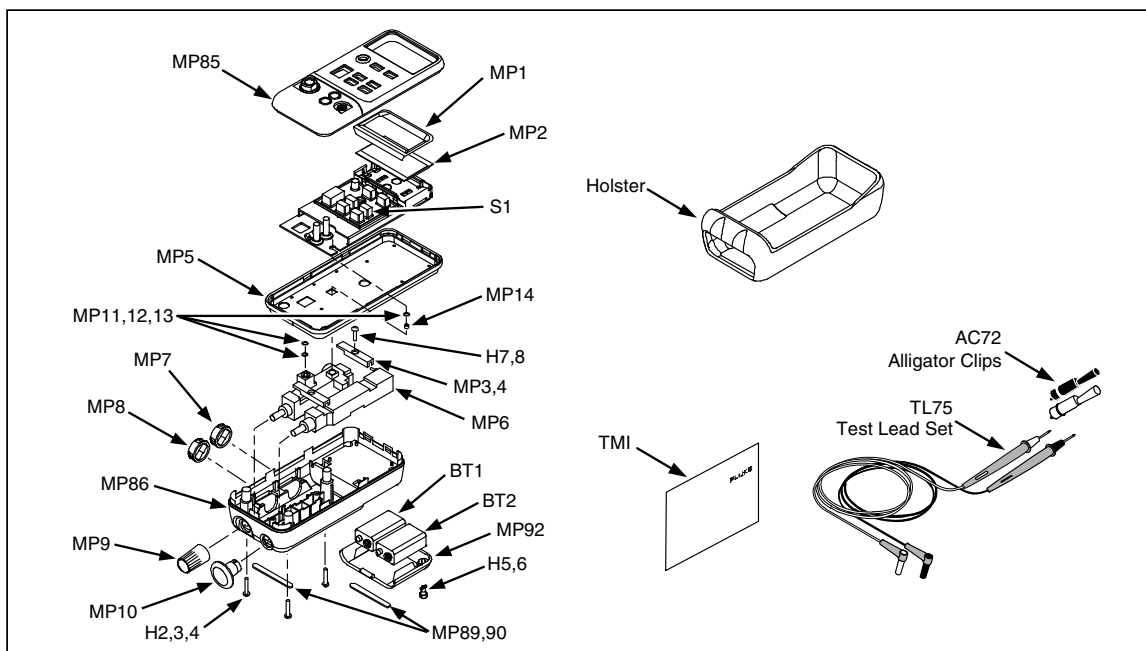

Figure 7. Replacement Parts (718 shown)
Table 71 lists the replaceable parts and accessories for the 71X Calibrators. See Figure 7 for an exploded view of the 718 Calibrator. Fluke repair is recommended for the 718Ex and no 718Ex replacement parts are listed in Table 71.
*Not all parts listed in Table 71 are shown in Figure 7.*